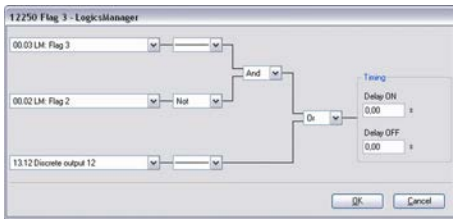

Fig. 172: LogicsManager function "Flag 3"
4. ➤ Configure the LogicsManager function "Flag 3" as shown in ( Fig. 172).